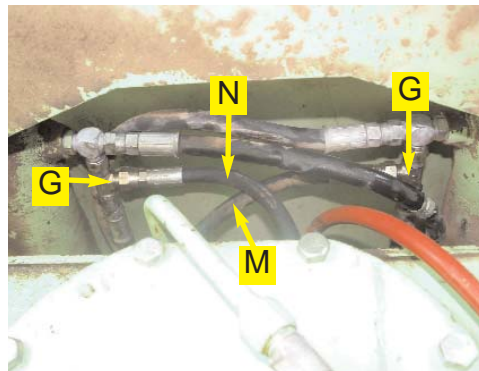

Figure 6b. Steering hoses at the steering cylinders (ST models).
- b. Route the steering lines from the steering cylinders and under the cab to the automated steering block. (Figure 6b.)